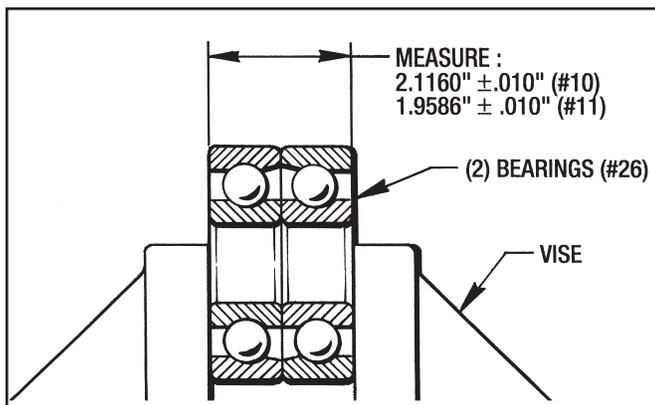

Figure 9.1 - Measuring Thickness of Bearings (#26)
To determine if a Bearing Shim (#378) is needed for the output shaft, measure the thickness of the (2) Bearings (#26) when clamped together as shown in Figure 9.1. If the bearings measure smaller than 1.9586" for Size #11 then a Bearing Shim (#378) will be required. If the bearings measure larger than the specified dimensions, no shim will be needed. **NOTE:** This Shim will be installed when the Bearing Retainer (#7) is attached to the housing.